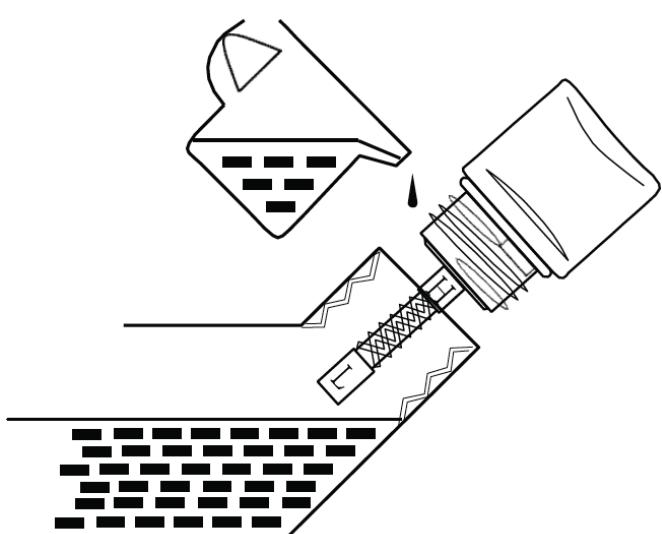

Figure 21 - Checking Oil Level
- **Acceptable Oil Level** – Oil is visible on the crosshatches between the H and L lines on the oil fill plug/dipstick (see Figure 21).
8. Continue to add oil until the oil is at the correct level. See Figure 21.